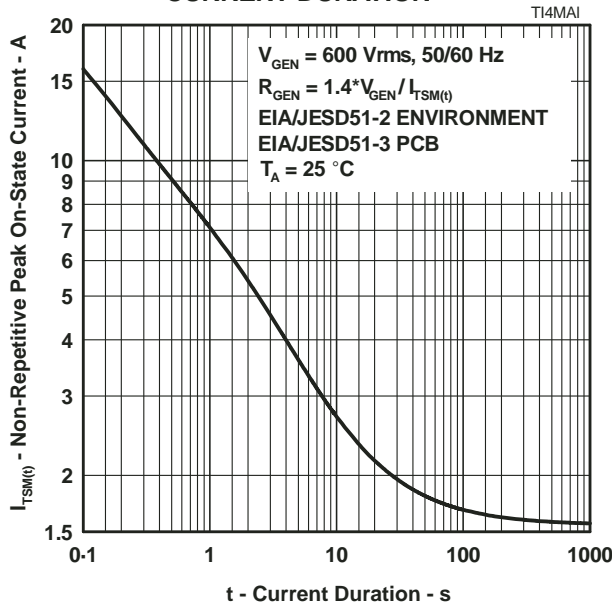

Figure 9.
5. EIA/JESD51-2 environment and EIA/JESD51-3 PCB with standard footprint dimensions connected with 5 A rated printed wiring track widths. See Figure 9 for the current ratings at other durations. Derate current values at  $-0.61\text{ }^\circ\text{C}$  for ambient temperatures above  $25\text{ }^\circ\text{C}$ .
The protector can withstand currents applied for times not exceeding those shown in Figure 9. Currents that exceed these times must be terminated or reduced to avoid protector failure. Fuses, PTC (Positive Temperature Coefficient) thermistors and fusible resistors are over-current protection devices which can be used to reduce the current flow. Protective fuses may range from a few hundred milliamperes to one ampere. In some cases, it may be necessary to add some extra series resistance to prevent the fuse opening during impulse testing. The current versus time characteristic of the overcurrent protector must be below the line shown in Figure 9. In some cases, there may be a further time limit imposed by the test standard (e.g. UL 1459 wiring simulator failure).